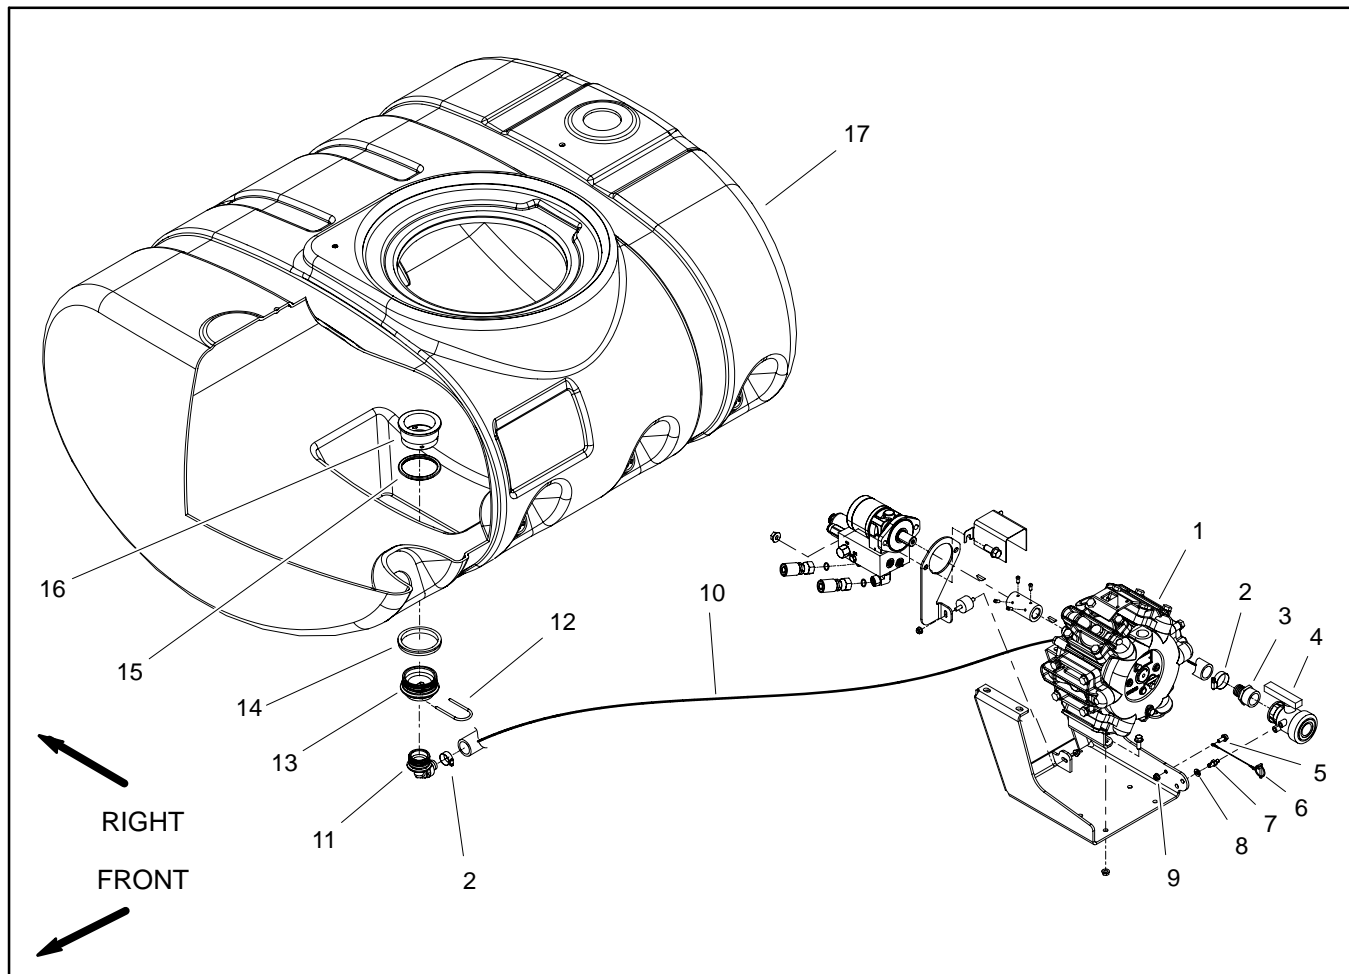

Figure 26
Disassembly (Fig. 26)
4. Disassemble drain assembly using Figure 26 as a guide. Discard all removed O-rings and gaskets.
Assembly (Fig. 26)
1. Assemble drain assembly using Figure 26 as a guide. Replace all removed O-rings and gaskets.